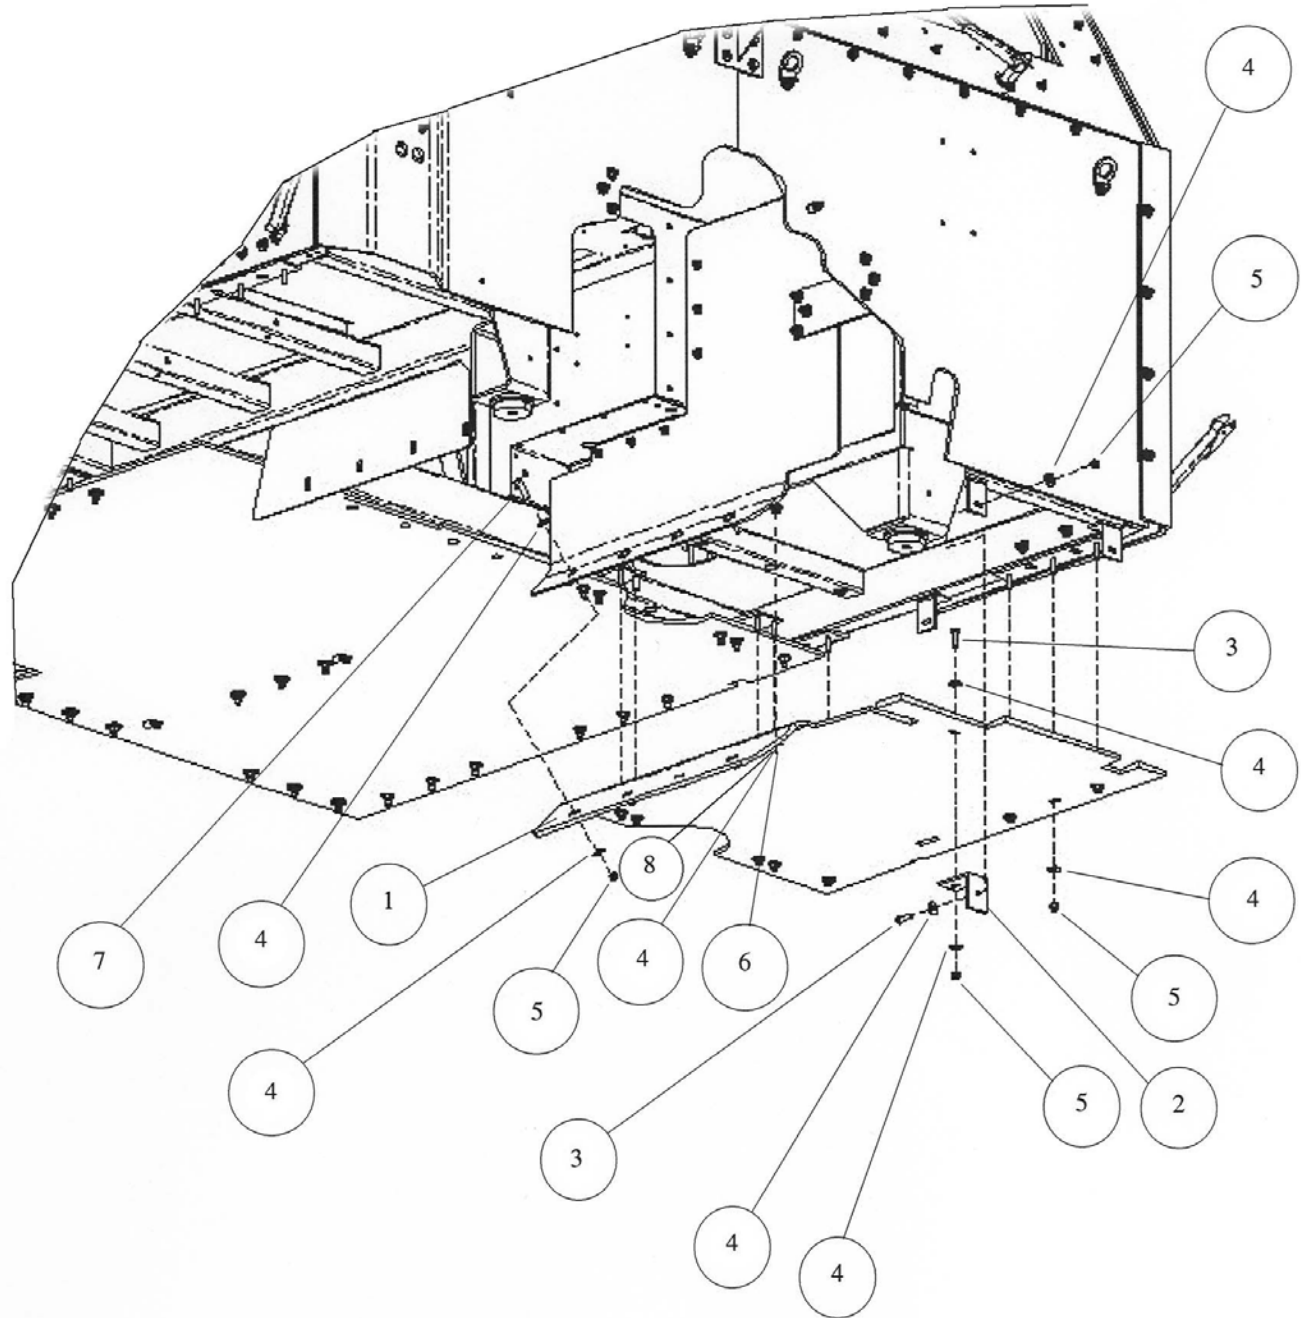

Figure 3-62. Left Mine Blast Panel Installation.
1. Pre-assemble and install left mine blast panel as follows (see Figure 3-62):
- a. Raise the left mine blast panel (1) into place under vehicle using a forklift or other suitable lifting device.